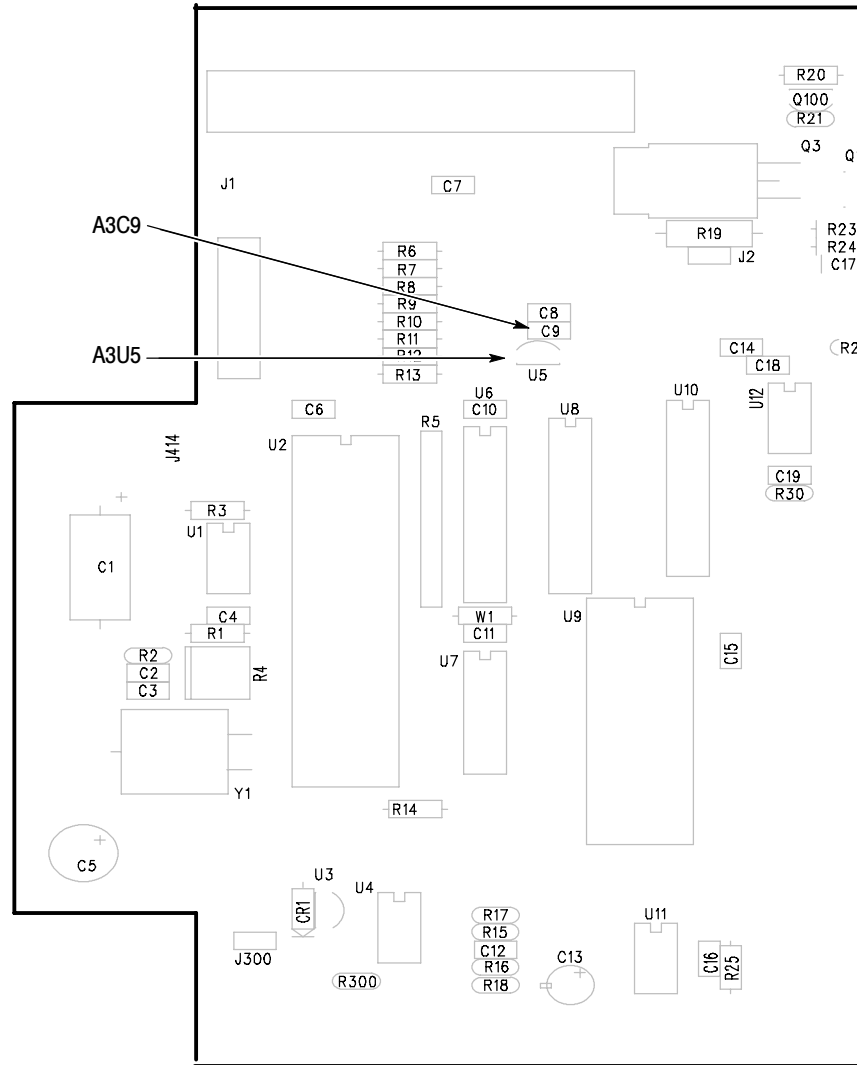

Figure 3: Portion of Main board showing the location of A3U5 and A3C9
1. Replace A3U5 (Tektronix part number 156-1150-01). See Figure 3 for the location of the component.